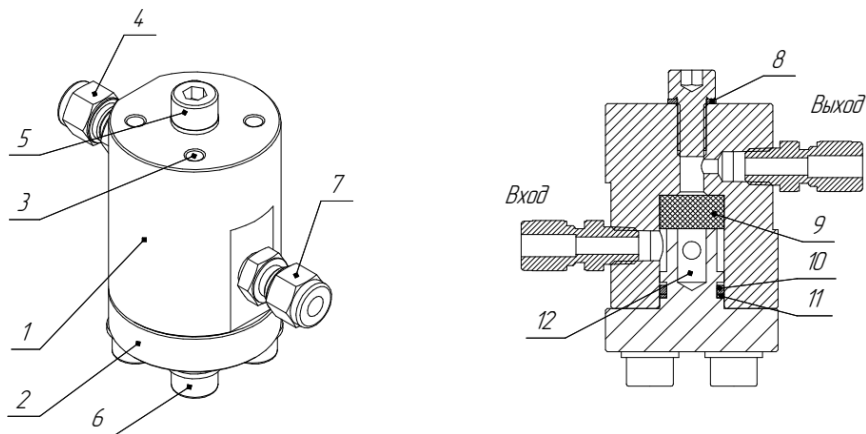

Fig. 3. Filter
The appearance and design of filter 8 are shown in Figure 3.
4.4 Filter housing 1 (Fig. 3) and cover 2 are made of stainless steel. Filter element 9 made of thin pressed stainless wire is installed inside the housing. The filter element is compressed by the cover, which is sealed with circular section rubber seal 10. On top there is technologic screw 5 closing the technologic hole. The technologic hole is used for pushing out the filter element during its maintenance.